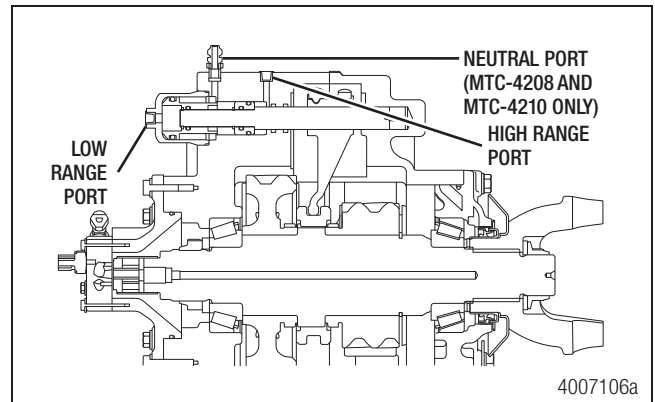

Figure 5.18
- Disconnect the air lines used to shift in the previous steps. Figure 5.18.